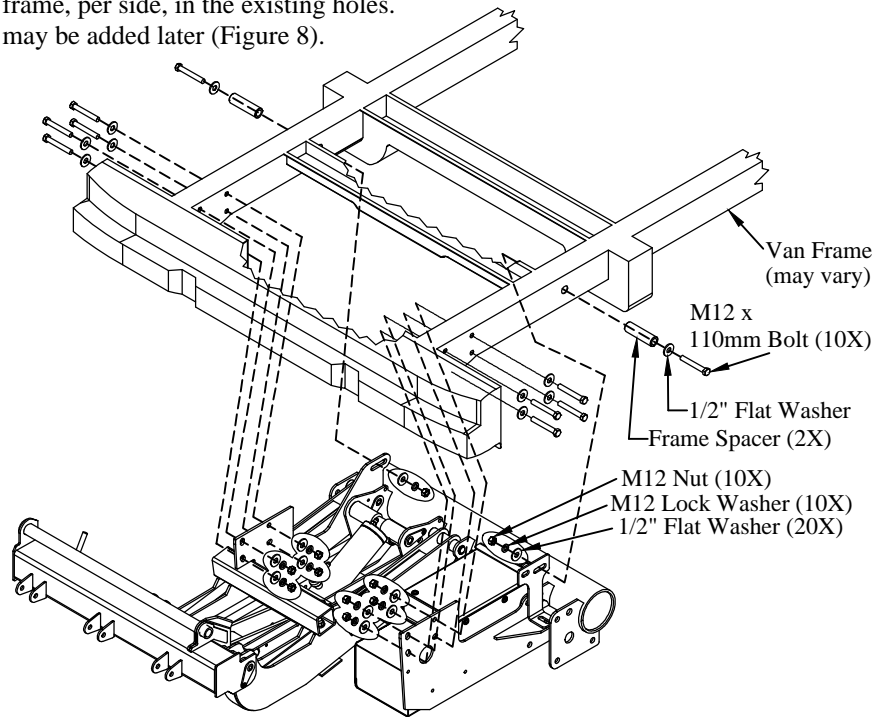

Figure 8: Main assembly position on frame.
1. **Install** the hanger brackets loosely in their widest position (Figure 8). These brackets may need to be rotated or swapped depending on van frame.
Do Not tighten at this time. The driver side nut may be added later (Figure 8).